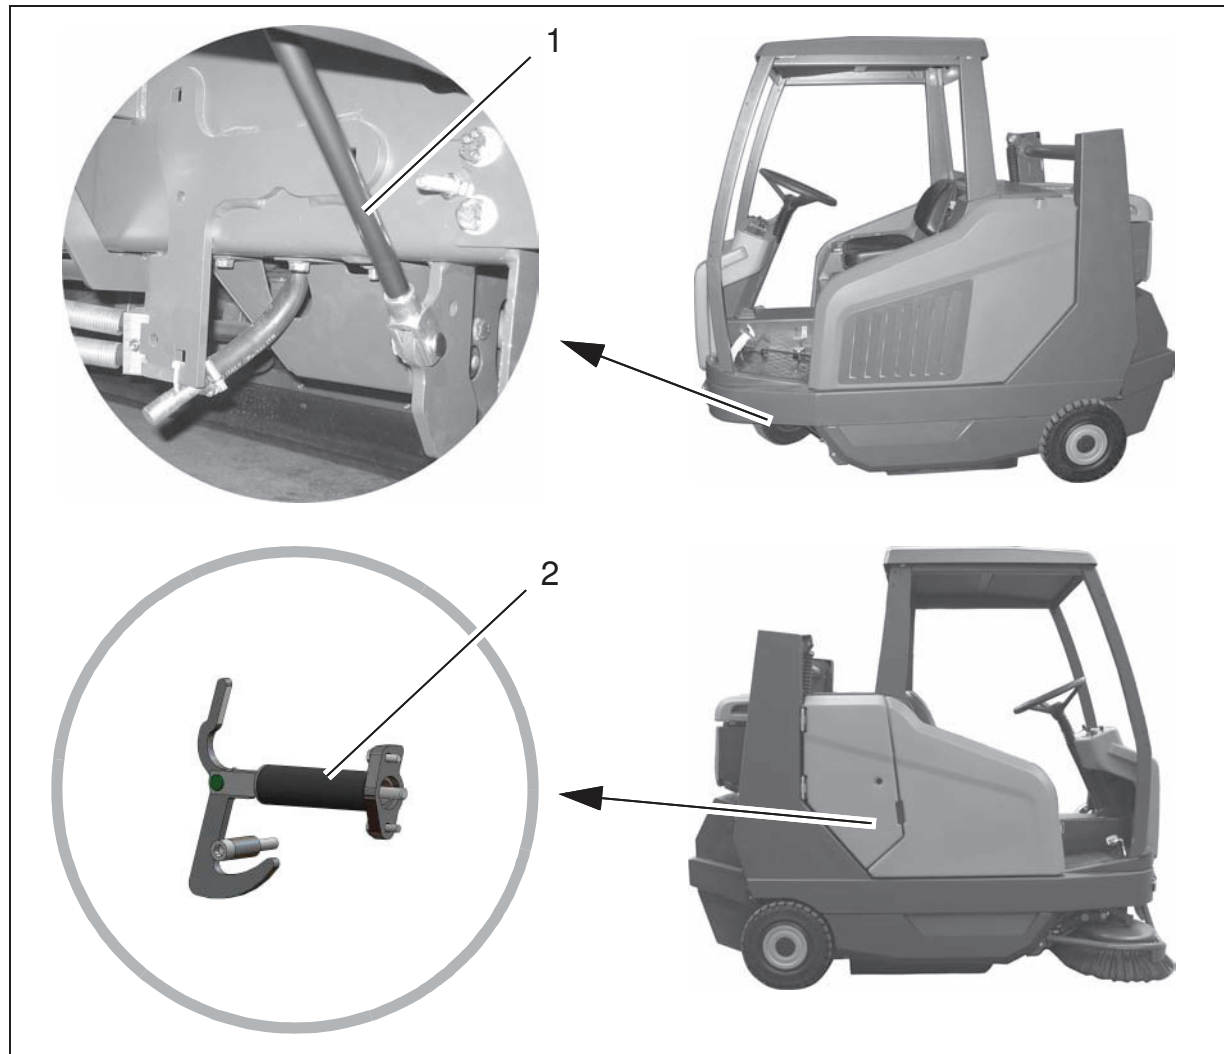

Fig. 2
- Disassemble the gas spring (Fig. 2/1) on the left-hand side.
- Disassemble the locking hook (Fig. 2/2) on the right-hand side.